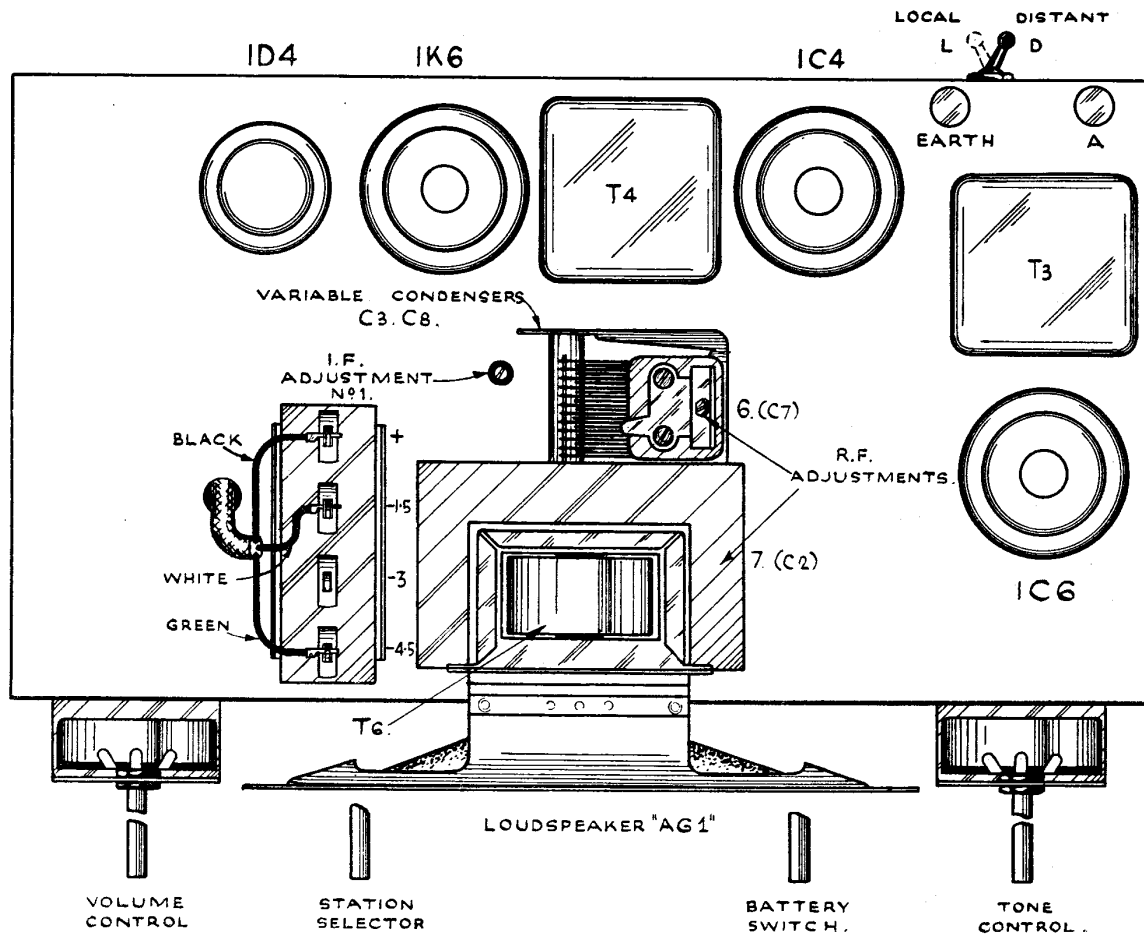

Fig. 3.—Layout Diagram (top view).
6. Beginning with adjustment No. 1 (see fig. 3) a non-metallic screwdriver is used to adjust the trimmer screw to a point where the maximum output reading is obtained. When the
The R.F. adjustments are located on the variable condenser—see fig. 3. They are numbered in the correct alignment order continuing from the I.F. procedure, that is, 6 and 7.